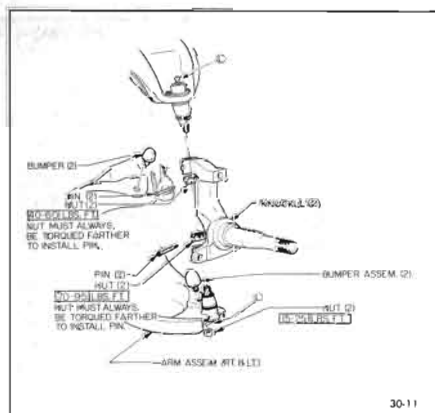

Figure 30-11—Steering Knuckle Detail
5. Support lower control arm and remove nuts from ball joint tapered studs. Raise upper control arm and remove tapered studs from knuckle. Remove steering knuckle. See Figure 30-11.